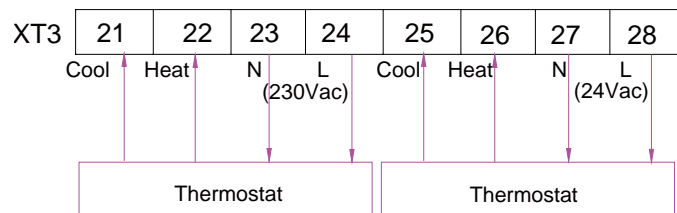

Fig .1
- (1) Uncover the front cover of the indoor unit and open the control box.
- (2) Identify the power specification of the thermostat, if it is 230Vac, find terminal block XT3 as NO.21~24 or NO.23~26; Otherwise, if it is 24Vac, find terminal block XT3 as NO.25~28 or NO.27~30;
- (3) If it is Heating/Cooling thermostat, please connect wire as Fig 1 ;